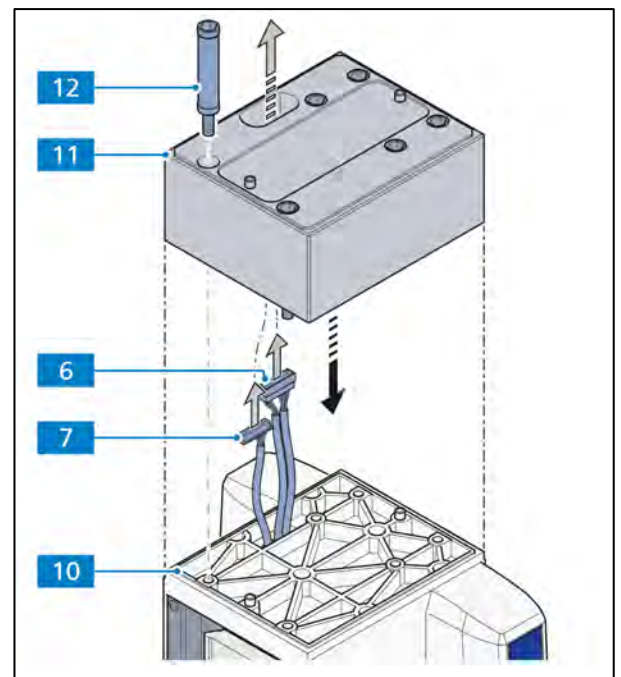

Fig. 3-56 Mounting the sample space extension
- Carefully, thread the cables (Fig. 3-56/6 and 7) from the bottom through the long hole of the sample space extension (Fig. 3-56/11).
- Place the sample space extension on the lower stand part (Fig. 3-56/10) and tighten it with the 6 spacer bolts (Fig. 3-56/12) of the sample space extension.